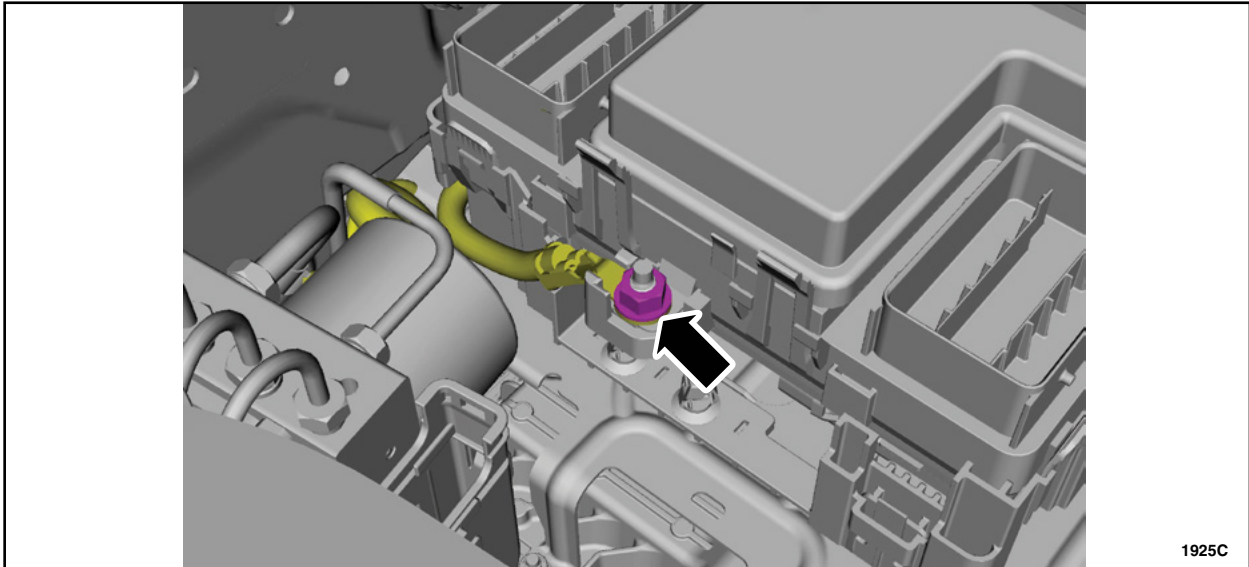

FIGURE 3
4. Remove the nut and position aside the cable end. See Figure 3.